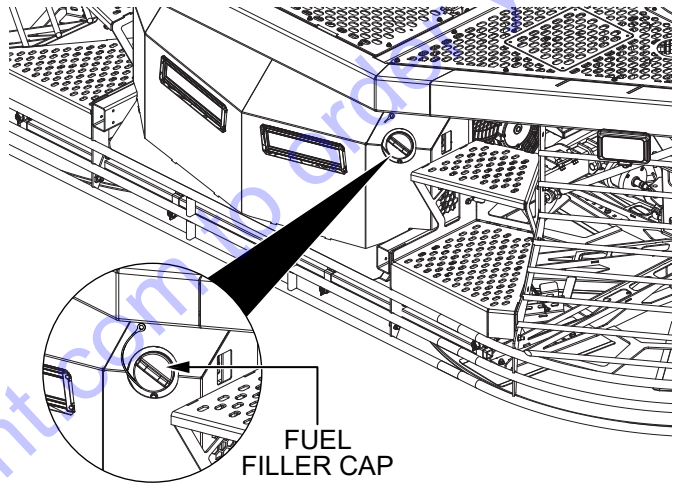

Figure 31. Fuel Filler Cap (Gasoline)
6. If fuel is low, remove the fuel filler cap (Figure 31) and fill the tank with unleaded 87 or 89 octane gasoline. **DO NOT** overfill. The fuel tank holds 35 gallons (132 liters) of gasoline.